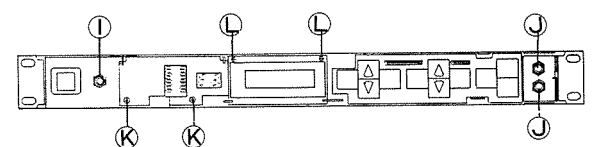

Fig. 4
- Remove the 2 hexagonal nuts **I** ( $\phi 9$ ) and disconnect 1 connector for the FP circuit board 3/3 on the AD circuit board, and remove the FP circuit board 3/3. (Fig. 4)
connect 1 connector on the FP circuit board 1/3, and remove the FP circuit board 1/3. (Fig. 4)
- Remove the 2 screws **K** (3 × 8 bind head screw) and disconnect 2 connectors on the LED ass'y, and remove the LED ass'y. (Fig. 4)
- Remove the 2 screws **L** (2.6 × 5 pan head screw) and disconnect 2 connectors for the LCD ass'y on the AD circuit board, and remove the LCD ass'y. (Fig. 4)